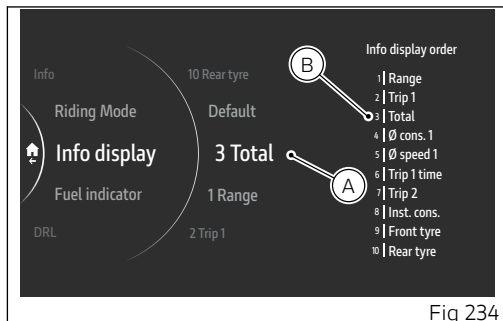

Fig 234
- Press ENTER to confirm. The order of the Info display is then updated with the new position (B, Fig 234).